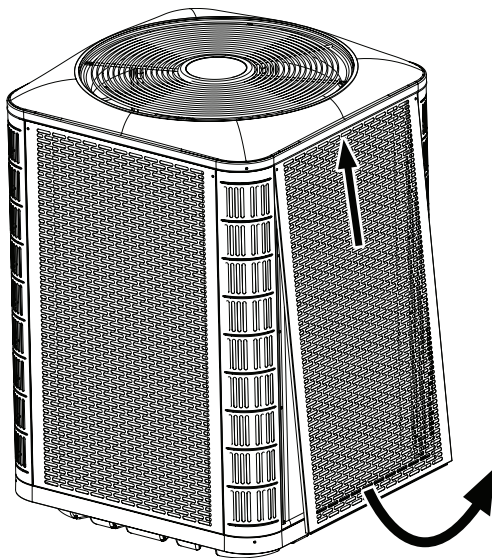
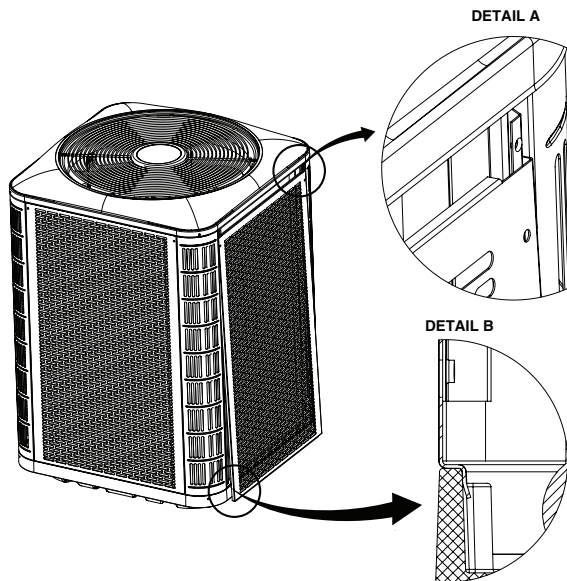

Figure 3. Panel Removal
Figure 4. Panel Installation
- ✓ Verify factory wiring is in accordance with the unit wiring diagram. Inspect for loose connections. See Figure 4, \(page 8\) & Figure 5, \(page 10\).
the low voltage control circuit wiring. Refer to the wiring diagrams Figure 4, \(page 8\) & Figure 5, \(page 10\) for identification and location of outdoor unit field wiring interfaces. Make all electrical connections in accordance with all applicable codes and ordinances.
- To access the outdoor coil on units equipped with louvered panels, refer to Figure 3, \(page 8\) for panel removal and Figure 4, \(page 8\) for panel installation.
2. Slide the panel up towards the top pan in order to clear the bottom flange from the base pan. See Figure 3.
1. Insert the top corners of side panel flanges into the corner post channels as shown in Detail A in Figure 4.